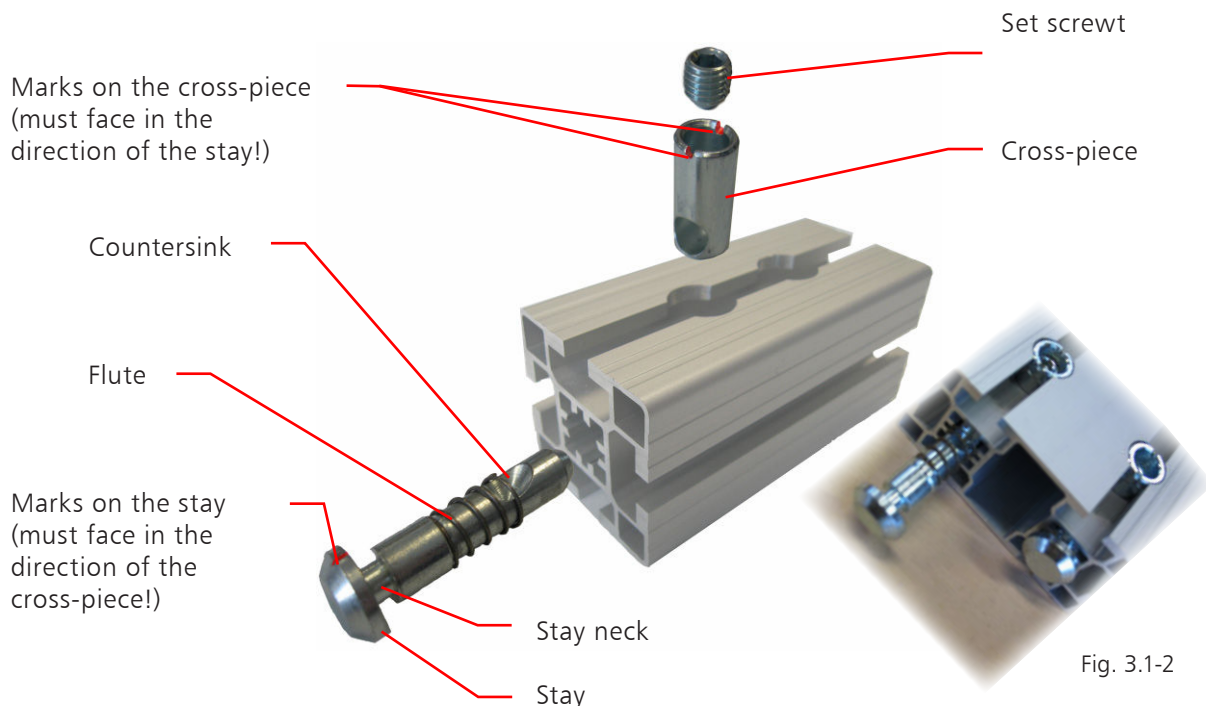
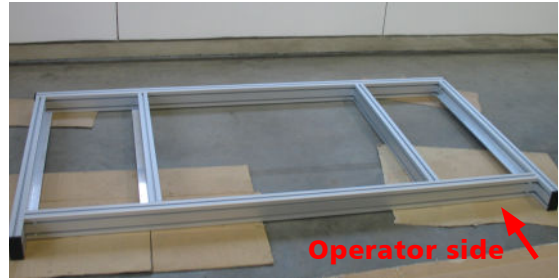
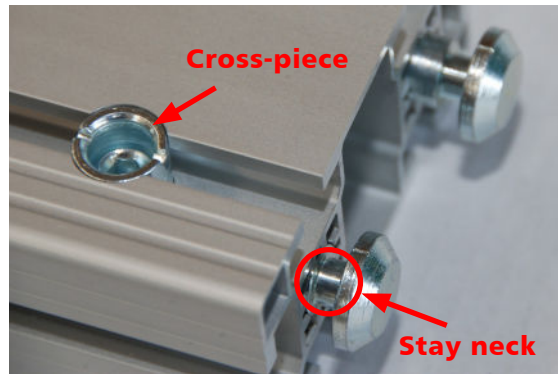
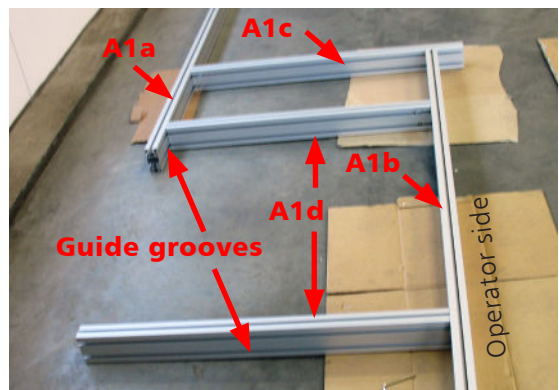

Fig. 3.1-2
Fig. 3.1-3
Fig. 3.1-4
Fig. 3.1-5
Step 2 Before starting to assemble the frame base **A1** (Fig. 3.1-3), attach all the profile connectors to the locations provided for them in the frame base profiles. There should be 4 profile connectors remaining for the side stands of the universal wall. Please ensure that the countersink faces the cross-piece. This is indicated by the marks on the stay (Fig. 3.1-2). The set screw in the cross-piece is now screwed in slightly with the appropriate Allen key. In so doing, the stay is pushed automatically into the profile. It is important that the neck of the stay is still visible (Fig. 3.1-4) in order that it can be inserted later into the guide grooves (Fig. 3.1-5). When screwing it in, it may be necessary to press the stay lightly against the cross-piece.
Step 3 Push the two base frame profiles **A1d** into the guide grooves of the base frame profiles **A1a** and **A1b** (Fig. 3.1-5). Ensure that the cross-pieces of the profile connectors face inwards in the profiles **A1d** and the cross-pieces of the profile connectors face outwards in profile **A1b**.
Please ensure that the countersink faces the cross-piece in this case as well. This is indicated again by the marks on the stay (Fig. 3.1-2). The set screw in the cross-piece is now screwed in slightly with the appropriate Allen key. In so doing, the stay is pushed automatically into the profile. It is important that the neck of the stay is still visible in order that it can be inserted later into the guide grooves (Fig. 3.1-15). When screwing it in, it may be necessary to press the stay lightly against the cross-piece.